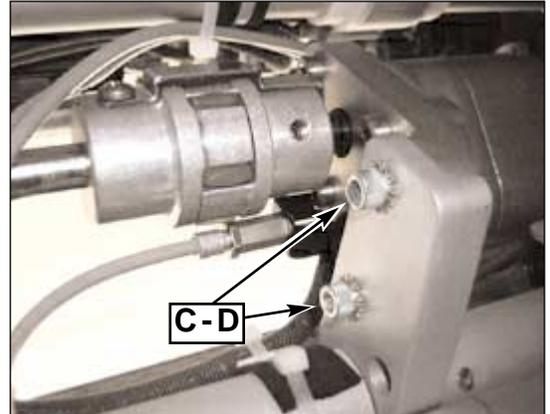

FIG. 319B:
- (4) Remove two bolts (C) and washers (D) (see fig. 319B).
- (5) Remove rotary actuator.